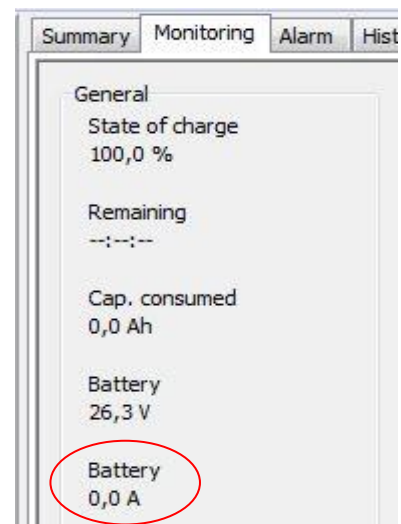

Figure 3-12: Checking zero
- 6 Verify on the MLI Ultra monitoring page that there is no current flow. See figure 3-12.